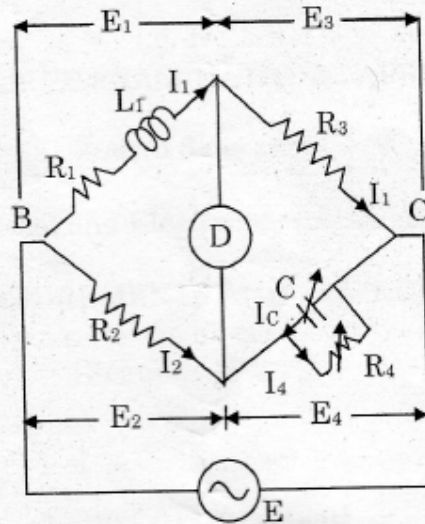

Fig. 1
- (b) A Maxwell's capacitance bridge shown in Fig. 1 is used to measure an unknown inductance in comparison with capacitance. The various values at balance : $R_2 = 400 \text{ ohm}$; $R_3 = 600 \text{ ohm}$; $R_4 = 1000 \text{ ohm}$; $C_4 = 0.5 \mu\text{F}$.